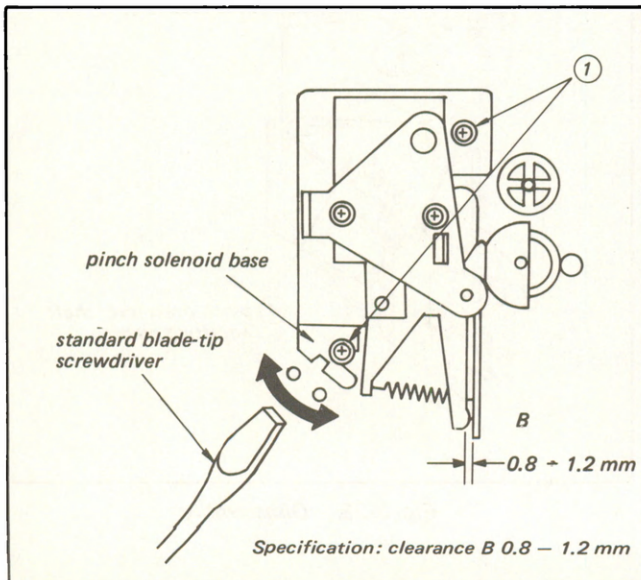

Fig. 3-30. Position adjustment of pinch solenoid
2. Loosen the two screws (1) shown in Fig. 3-30 by 1/3 to 1/2 turns.
4. Insert the standard blade-tip screwdriver as shown in Fig. 3-30. Move pinch solenoid base (2) in the arrow direction so that the specification at section B is satisfied, and tighten the two screws (1).